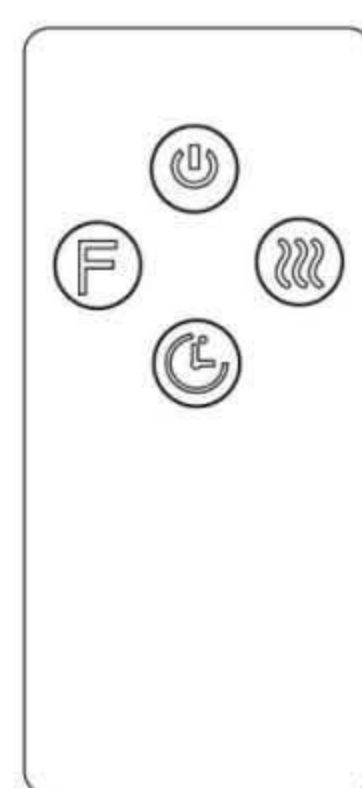

Figure 5
2. Using the multi-function remote control(Figure 5), functions same as control panel